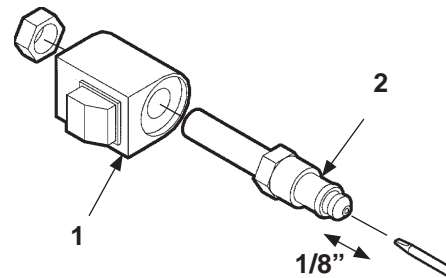

FIG. 38-2
3. Check if solenoid valve is getting power by holding a screwdriver against the top nut of the solenoid. Push control switch to "lower" position to energize solenoid (**FIG. 38-2**). A good solenoid will attract (magnetically) the screwdriver to the nut and make it difficult to pull the screwdriver away from the nut.
4. Check the valve stem by removing the coil assembly (**Item 1, FIG. 38-2**). With platform supported, unscrew the valve stem (**Item 2, FIG. 38-2**) from the pump. Push on the plunger located inside the valve stem by inserting a small screwdriver blade in the end. If the plunger does not move freely (approximately 1/8"), replace the valve stem.